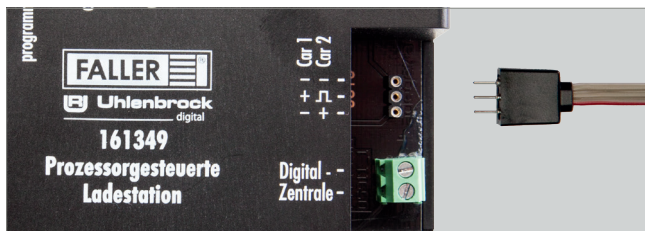

Fig. 4: Connecting the charging cable to the charging unit
- ▶ Insert the plug located at one end of the charging cable into the socket of the charging unit, see Fig. 4.